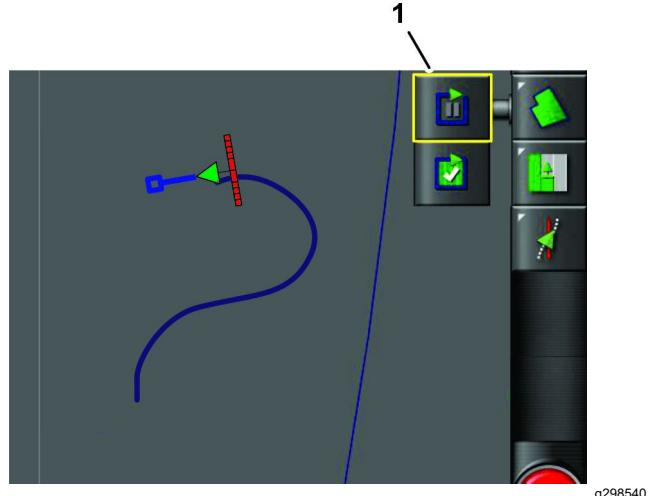

Figure 42
2. Press the PAUSE FIELD BOUNDARY RECORDING icon (Figure 42).